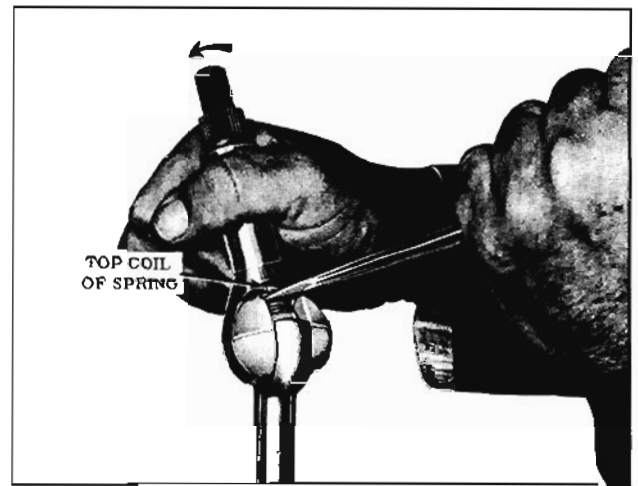

Fig. 8-102 Removing Spherical Joint Spring
4. Using a narrow bladed screwdriver through the coils of the spring, compress spring enough to remove the upper end from the upper seat. (Fig. 8-102)